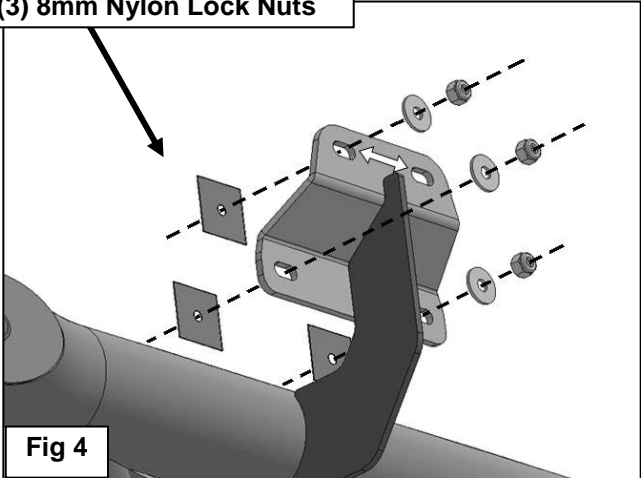

Fig 4
3. Select the passenger/right HD Side Step Assembly. With assistance, attach the HD Side Step to the (9) factory studs with (9) 8mm Flat Washers and (9) 8mm Nylon Lock Nuts, **(Figures 4 & 5)**. Snug but do not fully tighten the hardware.